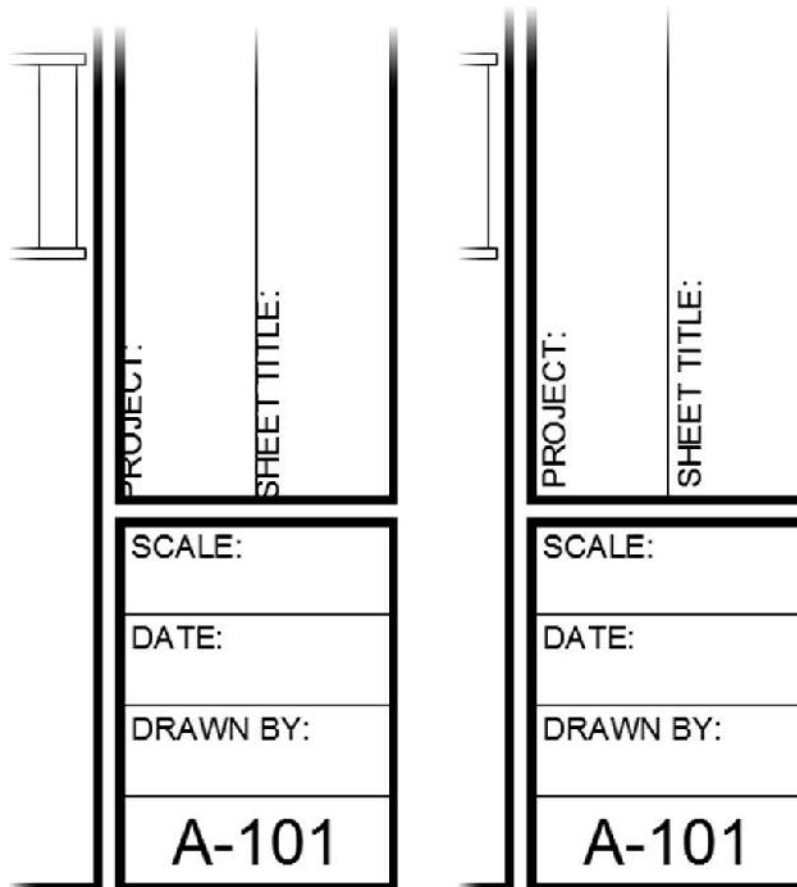

FIGURE 8.53: Defining the PROJECT and SHEET TITLE areas (left) and positioning the labels (right)
4. Set the justification to Top Left (TL), and choose the bottom-left endpoint as the start point.
7. Repeat the procedure outlined in steps 3–5 to create the SHEET TITLE: label in the area to the right of your PROJECT: label. Your drawing should look like the left image of Figure 8.53.
Your drawing should match the right image of Figure 8.53.